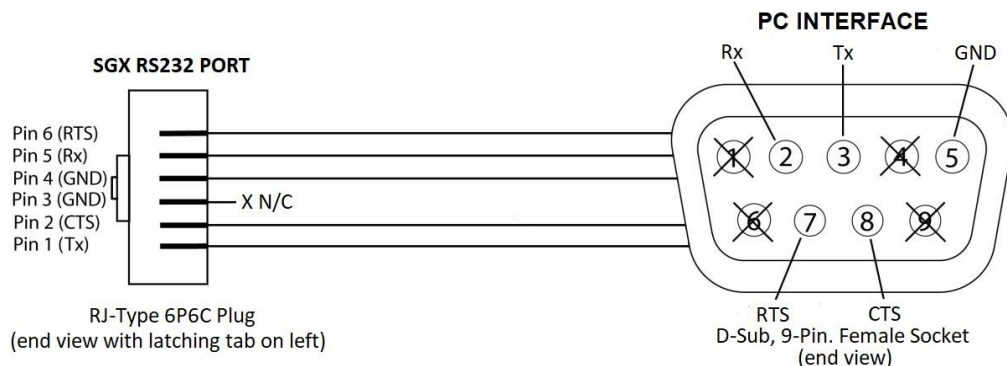

Figure 4-3. RS232 Communications Cable Pinout
1. Build an RS232 communications cable as per the pinout description illustrated in Figure 4-3 (with crossover of signals Rx/Tx and CTS/RTS):